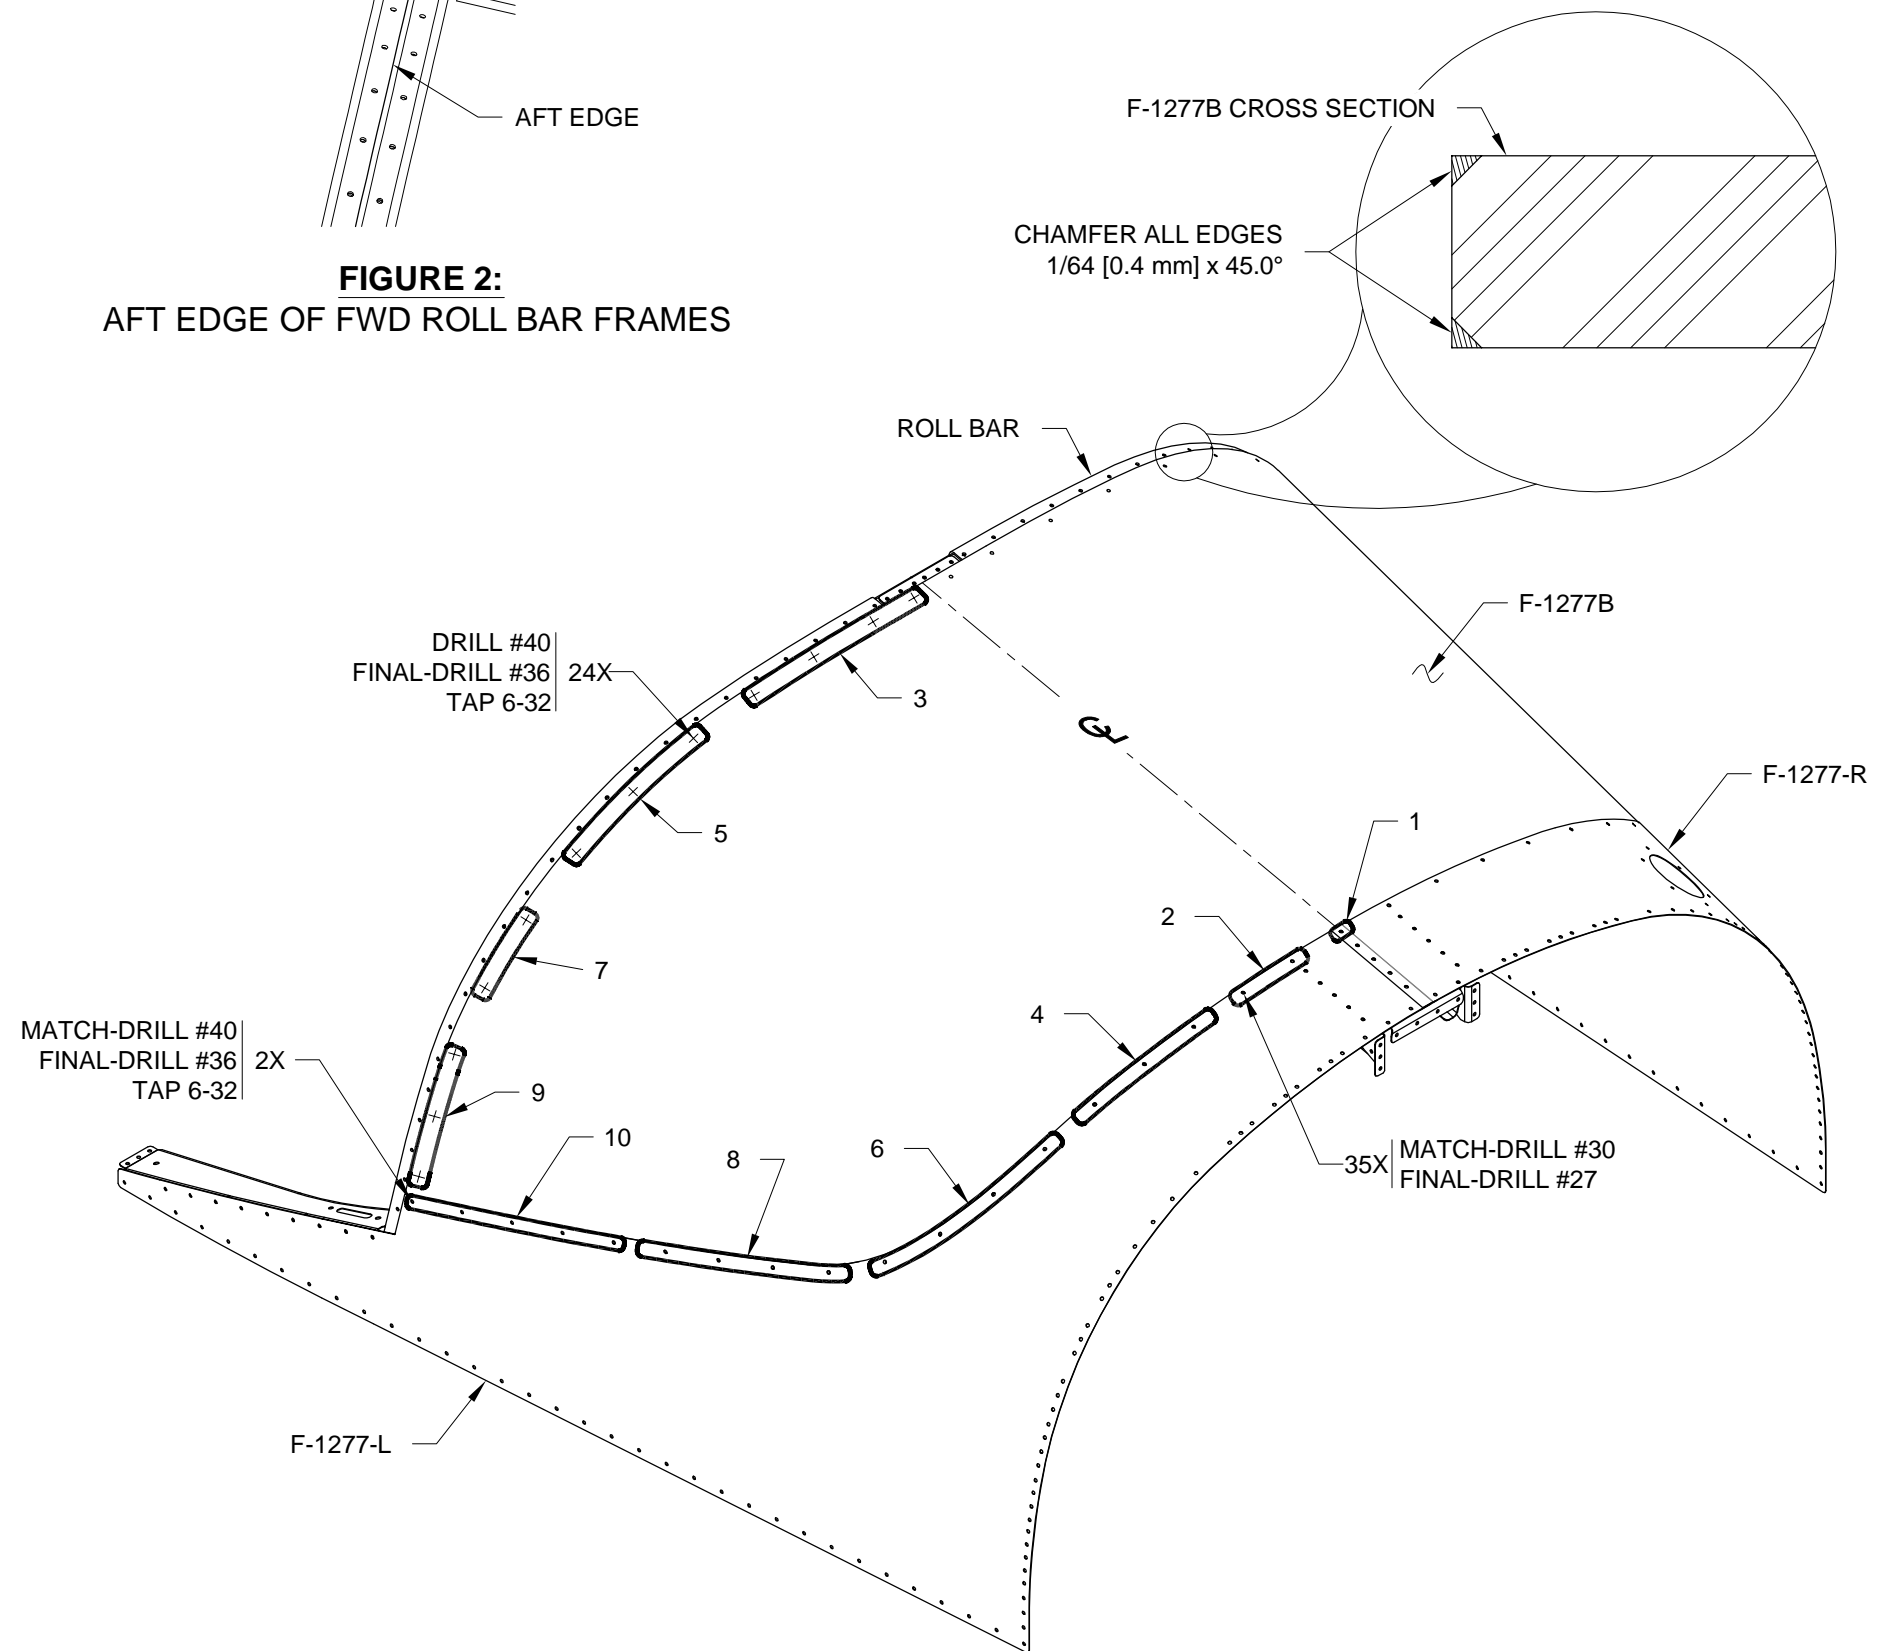

FIGURE 1: DRILL AFT WINDOW
Step 2: Apply a line of quality tape (masking or electrical) to the outside of the F-1277-L & -R Fwd Turtle Deck Skins. Align the forward edge of the tape with the edge of the skins. Create a cutout in the tape for each screw head. See Detail A in Figure 1.
Step 3: Apply a line of quality tape to the inside of the F-1277-L & -R Fwd Turtle Deck Skins. Align the edge of the tape with the aft edge of the F-1277B Aft Window. See Detail B in Figure 1.
Step 4: Apply a line of quality tape to the outside of the F-1277B Aft Window. Offset the aft edge of the tape 1/16 in. [1.6 mm] from the edge of the skins. See Detail A in Figure 1.